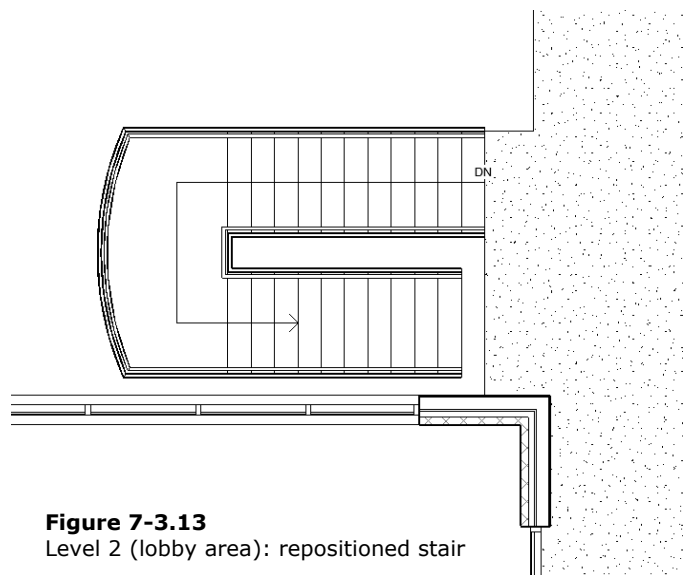

Figure 7-3.13
31. Select the lobby stair and use the **Move** tool to reposition it as shown in Figure 7-3.13.